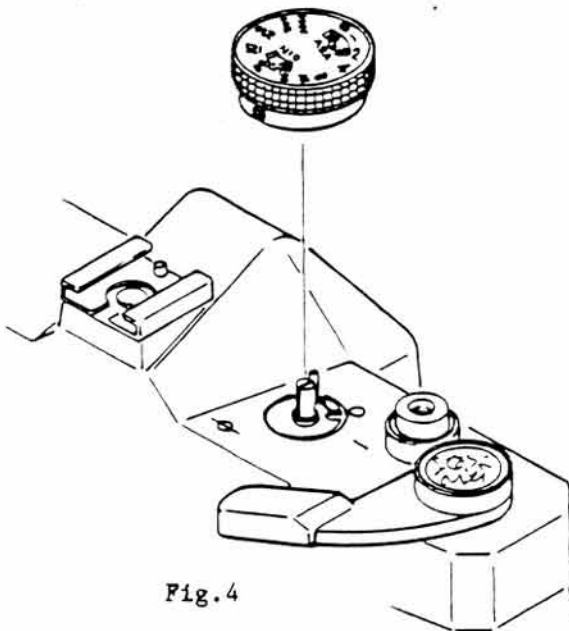

Fig. 4
- 2) Turn OTL1781K2 Pulley assembly for approximately  $360^{\circ}$  counterclockwise from the position where Chainlet is not wrapped round Pulley assembly as shown in Fig. 4